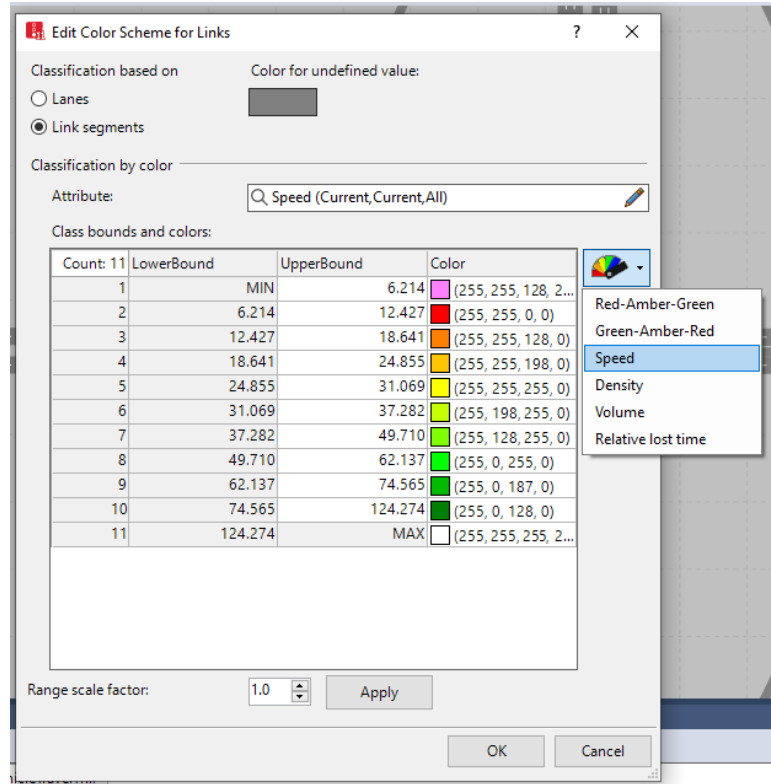

Figure 18: Edit Color Scheme for Links
- step vii. Select the color palette pull-down menu on the right-side of the *Edit Color Scheme for Links* Window and select *speed*, Figure 18. This will provide a default set of speed bounds and colors. You may adjust these as desired.